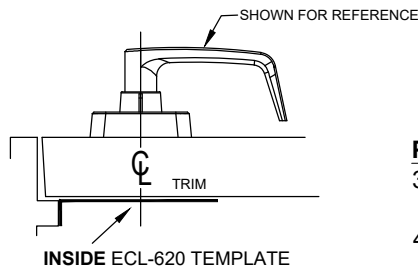

Fig. 4
3. Orient the **INSIDE** template TPL-620 for proper door handing and tape to door per Fig 4. See Fig 5 for hole locations.
- a. Mark, center punch and drill six (6) holes marked "C" on the door.
- b. Mark, center punch, drill and tap the two (2) **outer** holes of the strike, marked "A" on the frame.
- c. Mark, center punch, drill and tap the two (2)* **outer** holes of the keeper, marked "B" on the frame.